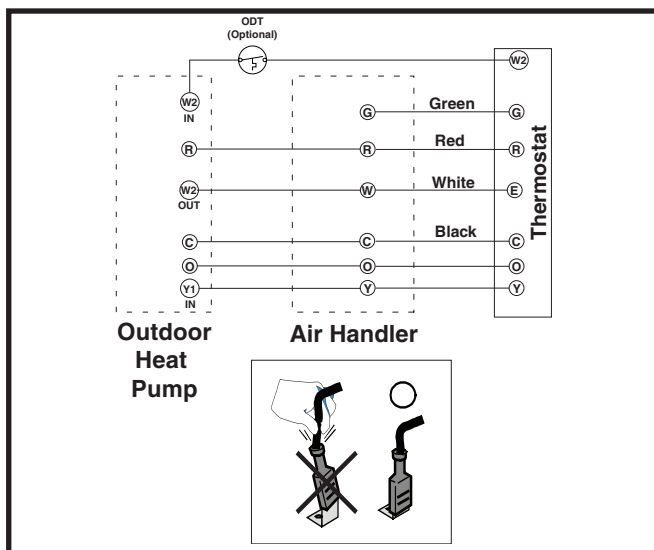

Figure 2. Typical Thermostat Connections
- For applications utilizing the outdoor thermostatic switch within these units, the installer shall need to wire in the switch as appropriate for their application. Refer to Figure 2 for typical configurations and the unit wiring diagram as needed.